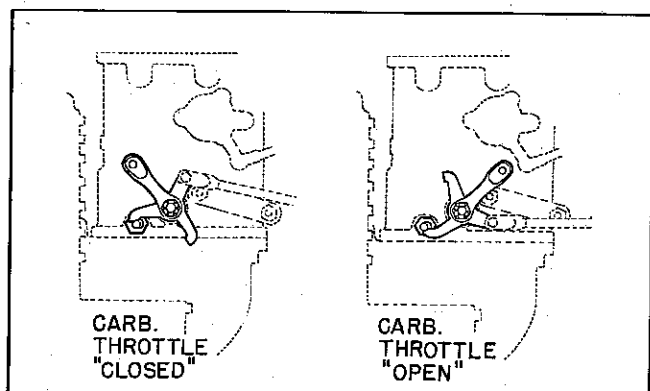

Figure 98 — Positions of Carburetor Throttle Lever with Throttle Closed and Open.
(5) The carburetor throttle rod, which was left attached to the carburetor throttle lever during removal of the regulator, will be connected to the differential lever of the regulator. Place the throttle rod on the right side of the differential lever and install the $\frac{3}{16}$ " special bolt from the lever side. The $\frac{3}{16}$ " shear castle nut should then be installed finger tight. The length of the throttle rod is next checked and adjusted to the proper length. The length of the rod is correct when there is a gap, or cushion clearance of .005" to .015" between the rear adjustable stop and the throttle pivoting crank lever while the throttle lever of the carburetor is in the fully closed position against the idle stop. (See Figure 98.) Do not disturb the adjustable idle stop setting. Set this gap with a feeler gage by lengthening or shortening the carburetor throttle rod assembly. After the rod is adjusted, tighten the rod-end jam nuts and the shear castle nut on the bolt, and cotter.
(b) Push the differential lever of the regulator to the front until the carburetor throttle is in the fully closed position and pressing against the closed throttle stop of the carburetor. (See Figure 98.)